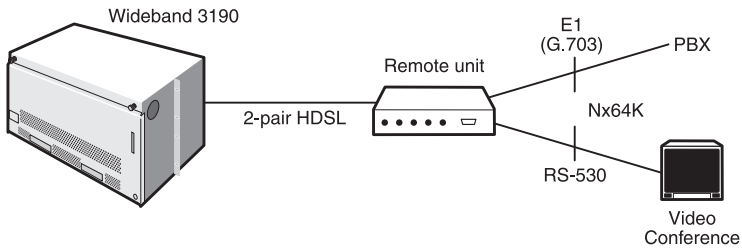

Figure 1. Typical ELU-819 List 1 Application (E1 to Dual-Port Operation)
PairGain® HiGain-ETSI™ Line Unit ELU-819 List 1 installs in any 3192-compliant chassis and interfaces with the HiGain-ETSI Universal Termination Units UTU-801 List 5, UTU-802 List 5, and UTU-804 List 5. The ELU-819 and the UTUs provide the Central Office (CO) and remote terminal (RT) sides of a repeaterless, High bit-rate Digital Subscriber Line (HDSL), respectively. The RT provides both E1 (G.703) and data interface (V.35, V.36, RS-449, X.21, or RS-530) ports to the customer (see Figure 1). The ELU-819 accepts the respective payloads through a E1 port from a multiplexer or a cross-connect shelf and transports it to the UTU-801 List 5, UTU-802 List 5, or UTU-804 List 5 at a maximum data rate of up to 2.048 Mbps. An internal time-slot assignment function splits the E1 bandwidth between these two ports as two Nx64K tributaries.